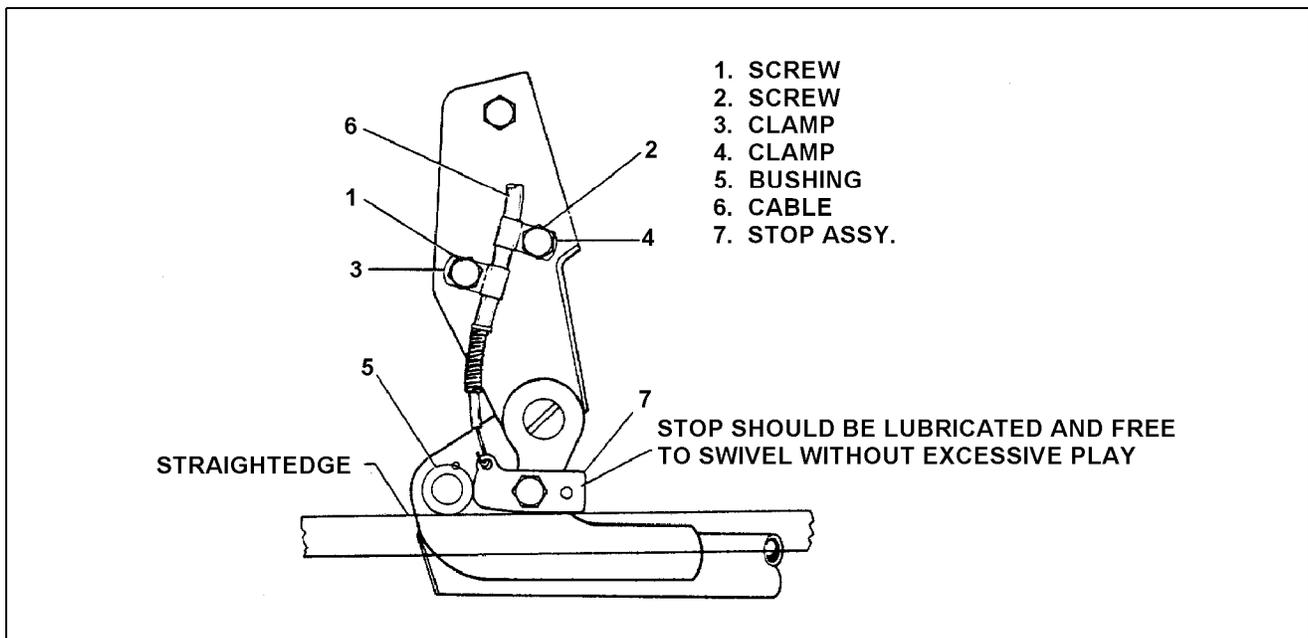

Figure 25-1. Seat Back Lock
A. Pilots Seat Lock and Release Rigging ( Refer to Figure 25-1 )